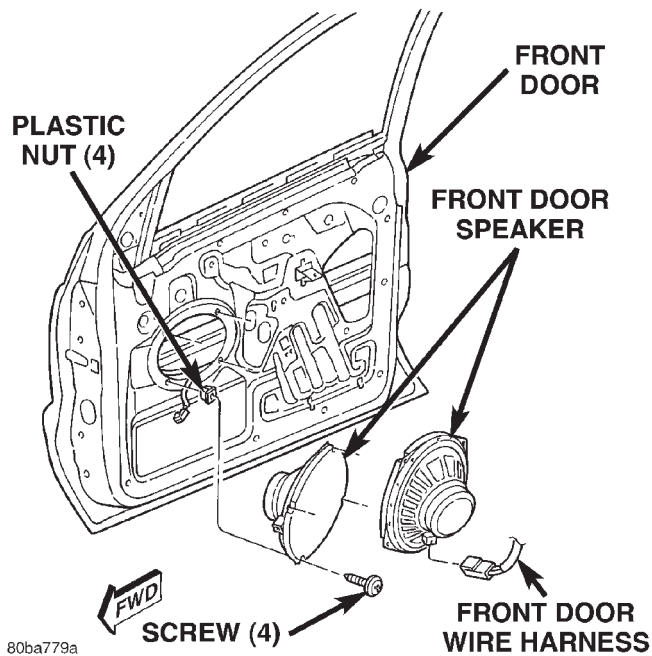

Fig. 9 Front Door Speaker Remove/Install
- (1) Disconnect and isolate the battery negative cable.
- (2) Remove the trim panel from the front door. Refer to **Front Door Trim Panel** in the Removal and Installation section of Group 23 - Body for the procedures.
- (3) Remove the four screws that secure the speaker to the front door inner panel (Fig. 9).